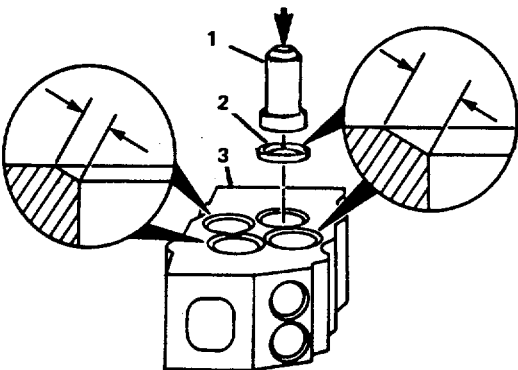

FIGURE 4-30. Valve Seat Insert Replacement.
(9) Use an arbor press and a mandrel (1, FIG. 4-30) to install the insert (2) in the head (3).